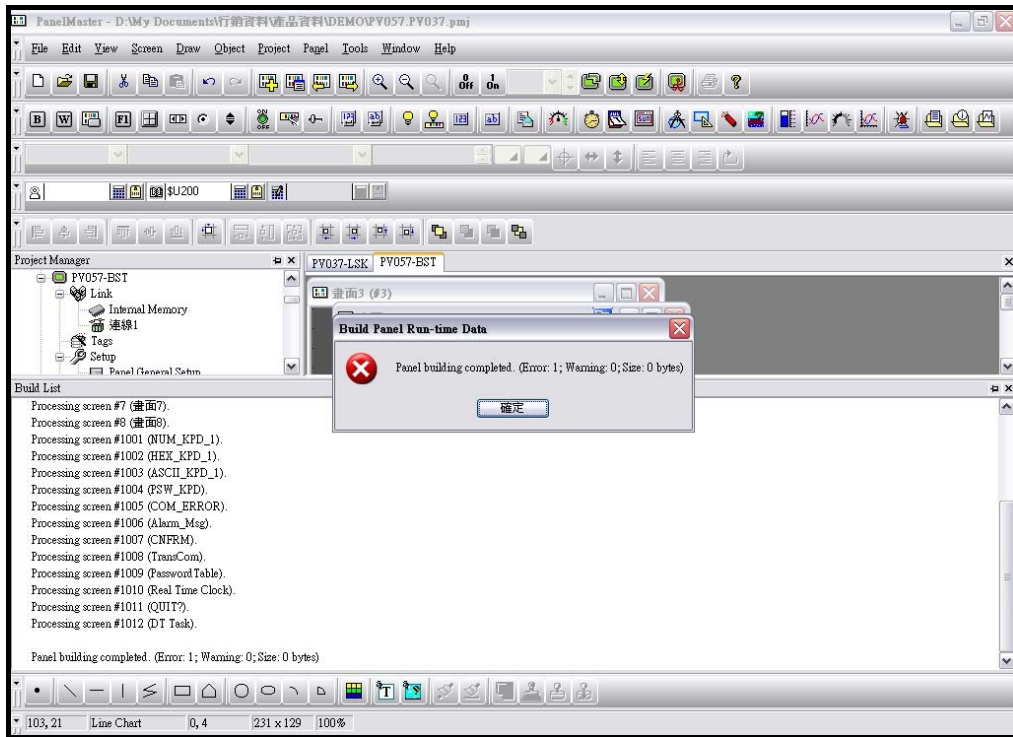

Figure 2-98 New project\_step 7\_ Build touch panel run-time data
**Step 7:** When all settings completed, users can execute “Build touch run-time data” from Panel drop down menu in order to know whether there are mistakes or not. See as shown in figure 2-98.